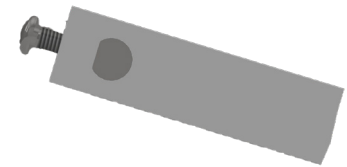

FIG. 6
- Tighten the Set Screw facing the flat on the Shaft (FIG.6)
USING THE ACH (FIG.6)